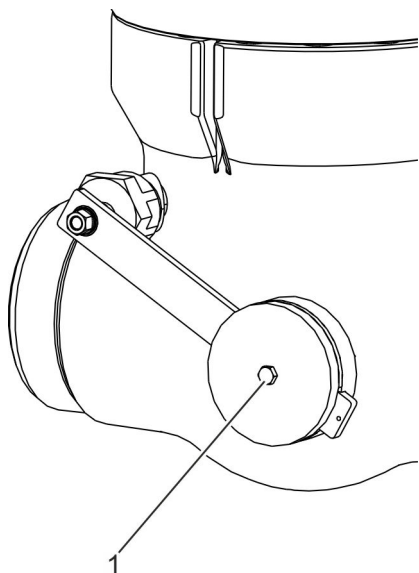

Fig. 13: Undoing the threaded connection
1. ➤ Undo the threaded connection (Fig. 13/1).